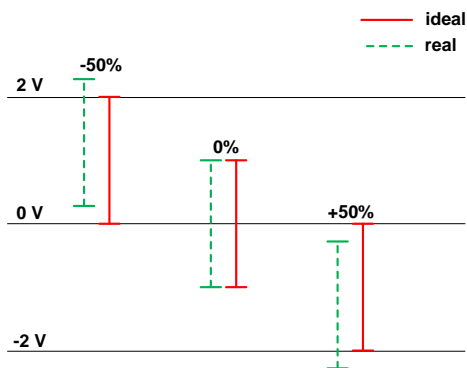

Fig. 7.7: Input signal DC offset adjustment description
- **“DC Offset” box:** sets the value of the DC Offset applied to the channel, expressed as the percentage of the Full Scale Range. Allowed values range between -50% (Full negative) and +50% (Full Positive). The DC Offset is a DC value added to the input signal by the input stage of the Digitizer in order to fit the signal dynamic range to the ADC input dynamics. Theoretically, the value of 0 (DC Offset = “0”) means that the input pulse DC level is set at half of the ADC dynamics (e.g. 2048 counts for the 720 series). The value of “50” (DC Offset = “50”) sets the DC level at the lower dynamics limit (i.e. 0 counts), while the value of “-50” (DC Offset = “-50”) sets the DC level at the upper dynamics boundary (i.e. 4095). The real DC offset adjustment implemented in the DPP-CI firmware is shown in **Fig. 7.7:** in order to preserve from saturation the input signals near the dynamics boundaries, setting the DC offset to -50 or +50 puts the signal baseline respectively a step up the upper boundary and a step under the lower boundary.